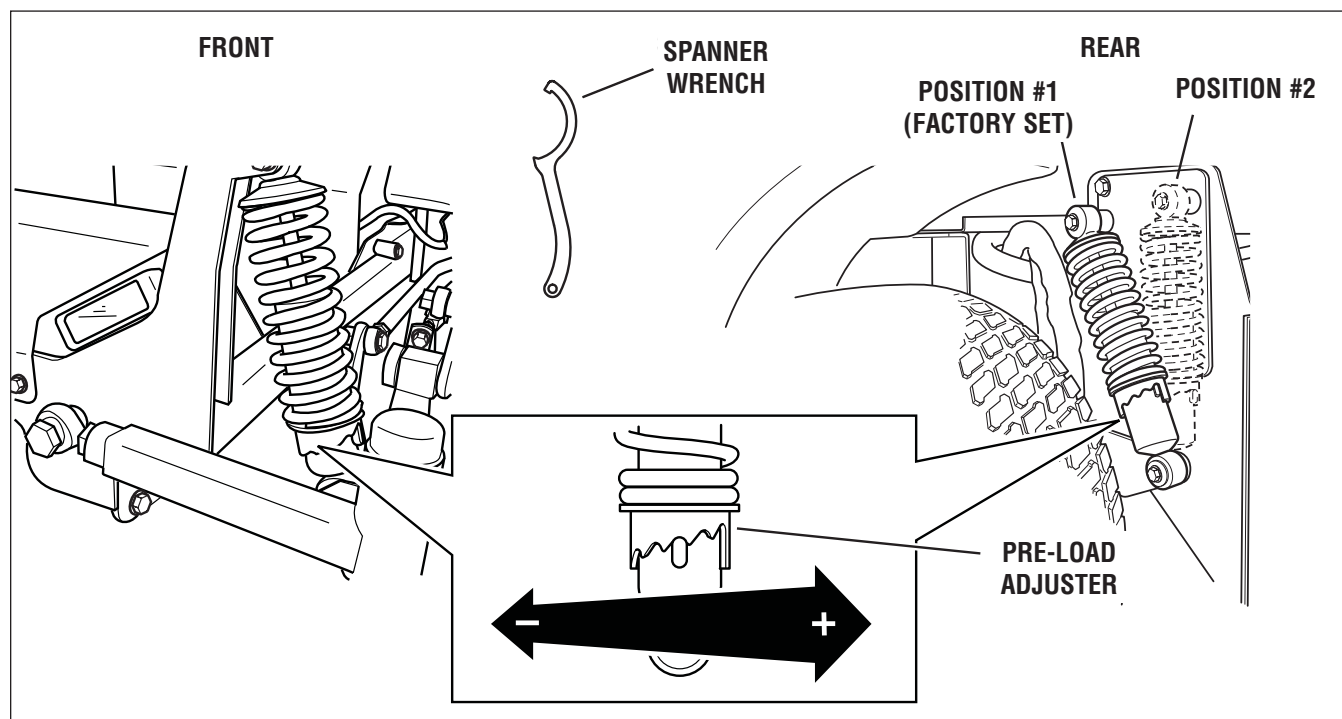

Figure 39. Suspension Adjustment
2. See Figure 39. Using the supplied spanner wrench (p/n 5022853), insert the tip of the wrench into the notch in the pre-load adjuster.
4. Remove the upper shock mounting hardware and pivot the shock to the position #2 (see Figure 39). Adjust the jack to align the shock mounts to the shocks.